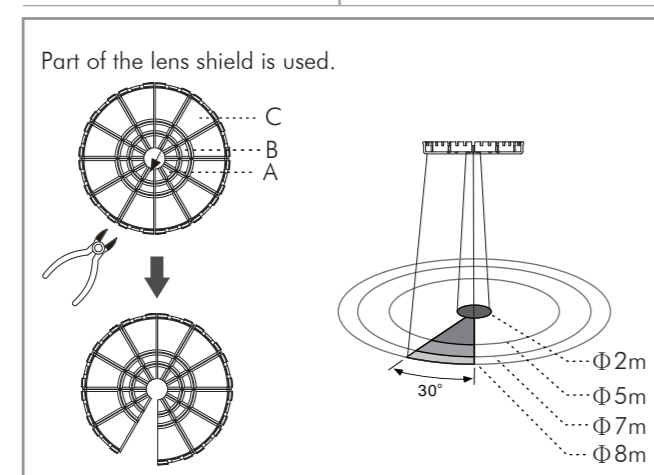

FIG.12
- KDP-DALI-PR2 has provided 2 lens shields for masking the undesired detection area (See FIG.12).
- The shadow part of the lens shields in the FIG.12 is referring to the cut off parts.